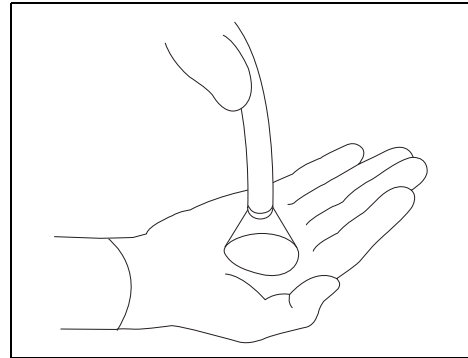

Figure 3.21
- 2 Confirm that light is output from the endoscope's distal end. (See Figure 3.21)